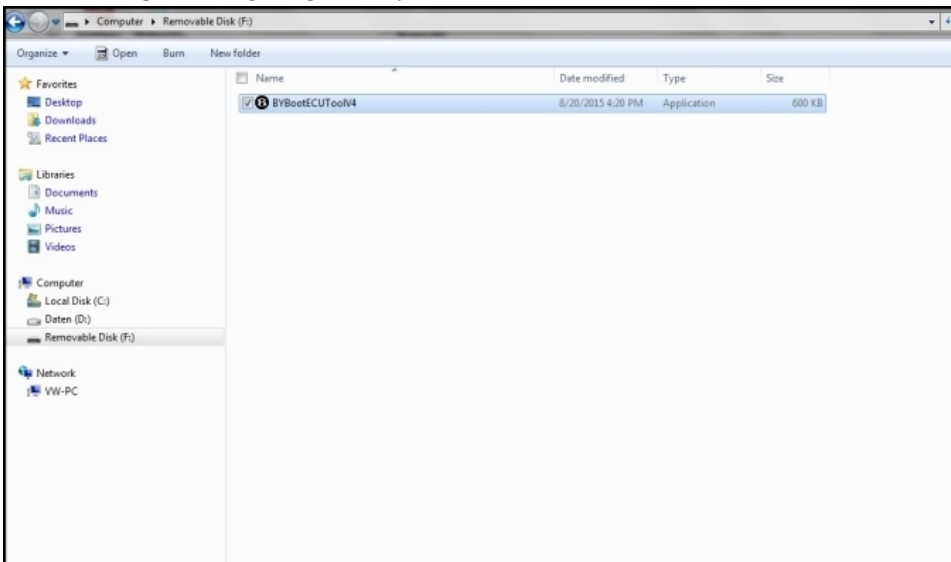

Figure 4a
8. From the diagnostic tool main desktop open USB memory stick (removable disc BYBootCUTTool) (see Figure 4a)